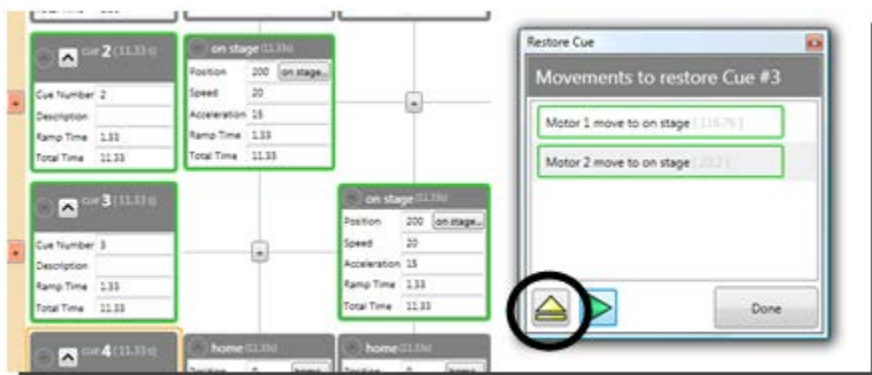

Figure 265
- To start moving motors back into their correct positions, select a single movement from the list and then press the **Load Movement** button in the **Restore Cue** window (Figure 265). Load and run the movements one by one.